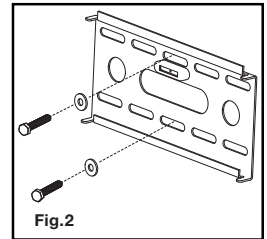

Fig.2
5. Place the wall plate back against the wall and attach it using the lag bolts (A) and lag bolt washers (B) (see Fig. 2). **Do not over-tighten these bolts and do not release the wall plate until all bolts are in place.** Ensure that the wall plate remains level after all bolts are secured.